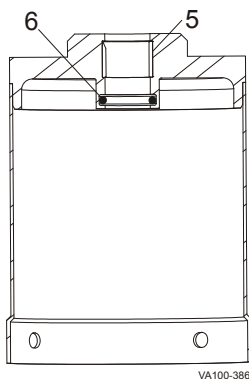

Figure 30: Remove O-ring and Bearing
6. Remove and inspect the upper stem o-ring (Figure 30, item 6) in the top of the actuator cylinder.
8. Inspect and replace the PTFE guide bearing (Figure 30, item 5) in the actuator cylinder as needed.